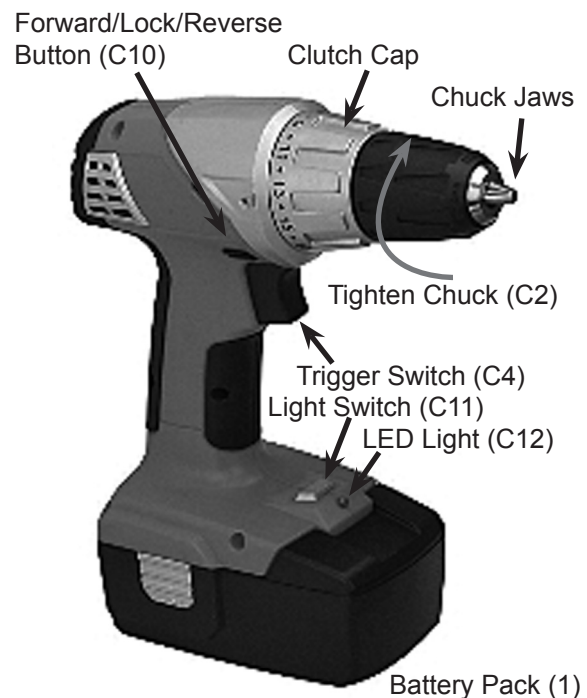

Figure C1
- **DO NOT** install the Battery Pack (1) until **AFTER** you complete the following steps to set up the Drill/Driver for use.
- Refer to Figure C1 for the location of the parts of the Drill/Driver for the following steps.